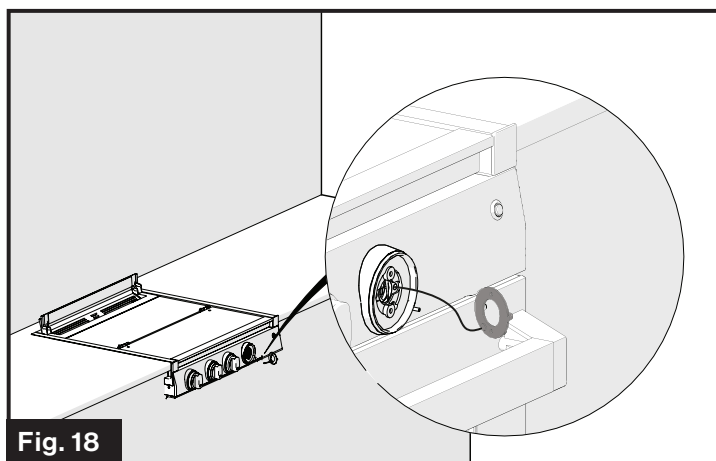

Fig. 18
4. Remove the LED assembly and disconnect the wire from the base of the LED assembly. (Fig. 18)